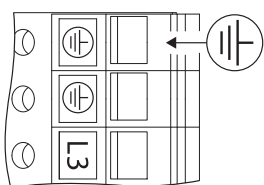

Fig. 29: Additional earthing
- Due to the increased discharge current in motors with more than 11 kW, it is also necessary to connect reinforced earthing acc. to EN 61800-5-1:2008-04 (see Fig. 29).